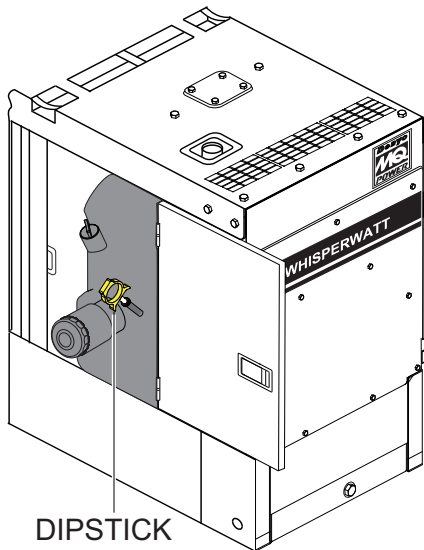

Figure 33. Engine Oil Dipstick
2. Remove the dipstick from its holder (Figure 33) and wipe it clean.